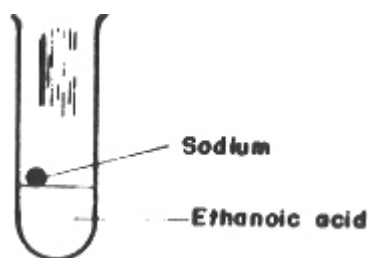

Figure 6.6: Action of sodium on ethanoic acid.
- (viii) Drop a pellet of sodium into a test-tube containing about 1 cm3 of ethanoic acid (Figure 6.6). A brisk effervescence occurs along with a hissing sound. Bring a lighted taper near the mouth of the test-tube. A pop sound indicates that the gas liberated is hydrogen. Active metals (Na, K, Mg, etc) liberate hydrogen from ethanoic acid.